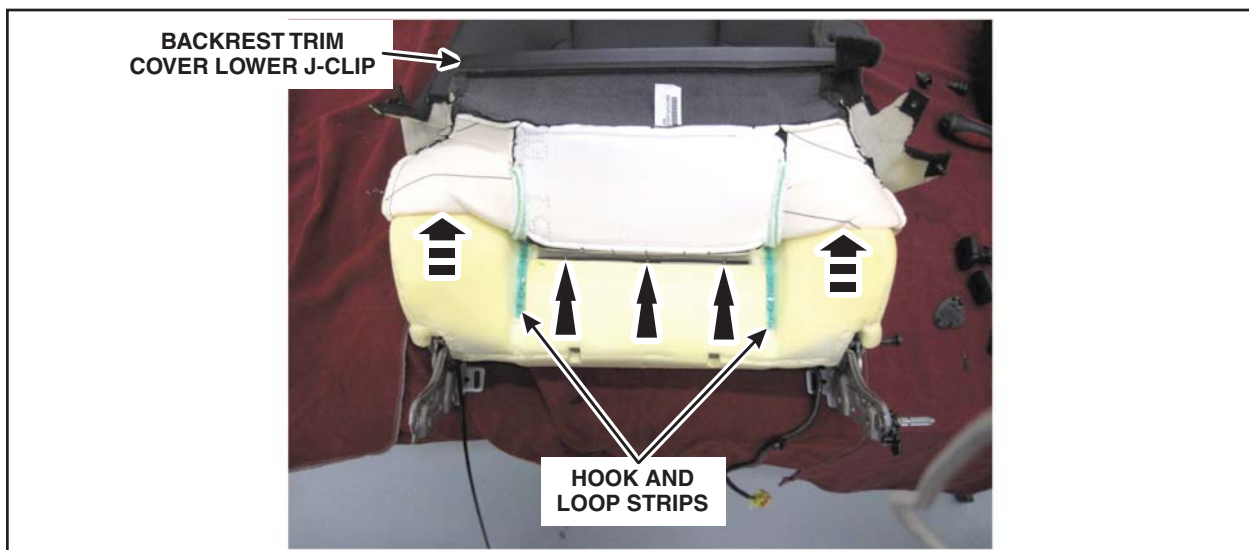

FIGURE 14
23. Remove and discard the first row of hog rings from the listing wire on the backrest foam pad. See Figure 14.